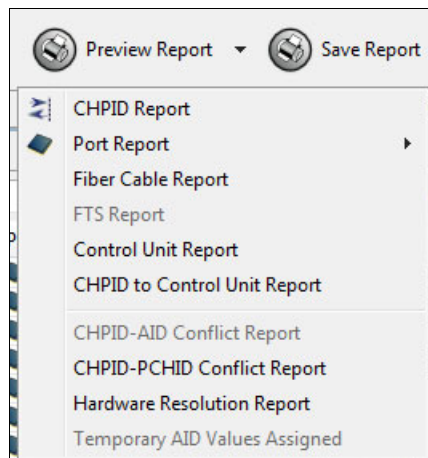

Figure 8-88 CMT - Preview report - CHPID Report
1. Click **Preview Report** → **CHPID Report** (Figure 8-88).